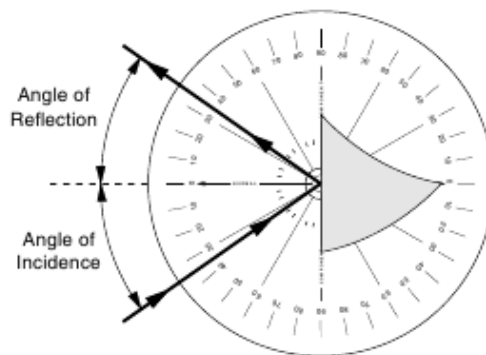

Figure 1.1.: Angles of Incidence and Reflection.
4. With the mirror properly aligned, the bold arrow on the Ray Table is normal (at right angles) to the plane of the reflecting surface. The angles of incidence and reflection are measured with respect to the Normal as shown in Figure 1.1